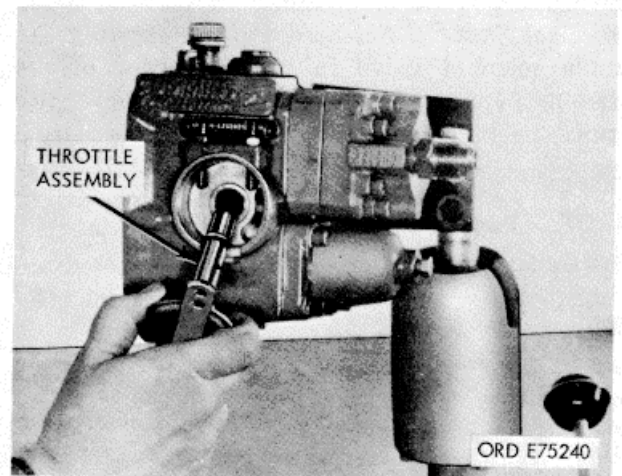

Figure 3-88. Throttle assembly installation.
(3) Install throttle assembly as shown in figure 3-88.
(4) Install compression spring and assemble